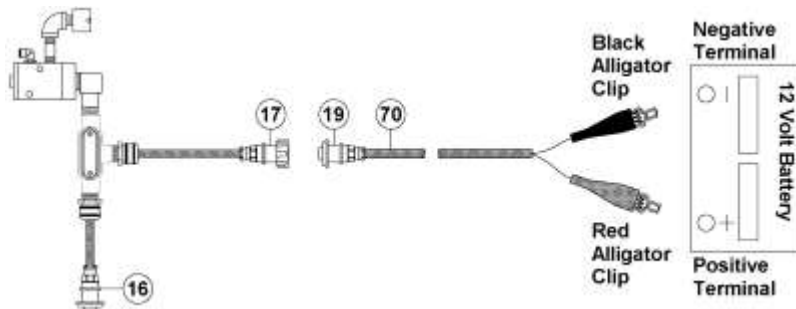

Figure 6.1 – Electric Power Connection
- 6.1.15. Connect the electric power cord alligator clips (#70) to the air compressor battery terminals or to another 12Vdc power source. See Figure 6.1.